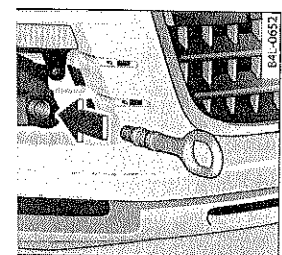

Fig. 321 Right front bumper without grill: Screwing in towing loop
- Screw the towing loop tightly into the threaded hole as far as it will go ⇒ page 392, fig. 321.